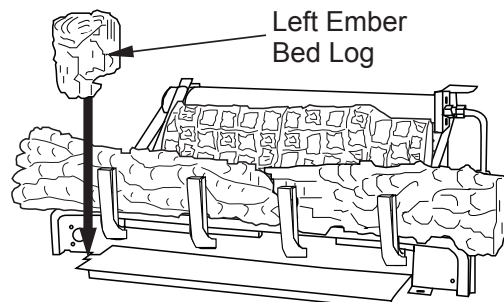

Figure 31 - Installing Left Ember Bed Log
4. Place left ember bed log as shown in **Figure 31**. The log has groove on one side that sets on the ember bed pan. The back side of this log needs to rest against the front of the base assembly. Make sure the flame from the ember pan does not touch the ember bed log.